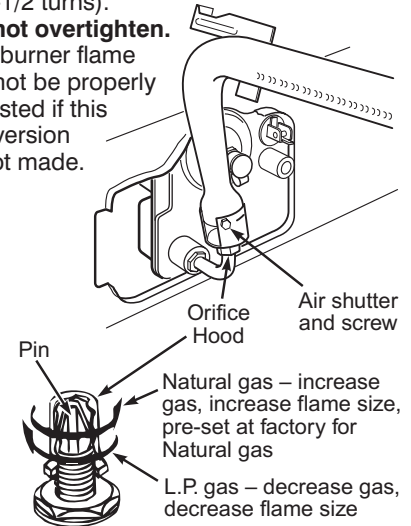

Figure 11
6. Oven burner: See Figure 11. Use 1/2" combination wrench to turn the orifice hood down snug onto pin (approximately 2 to 2-1/2 turns).